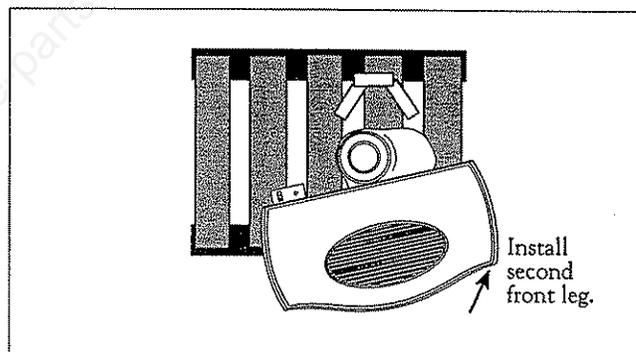

Figure 4.
Step 3. Slide the stove forward and swing the other front corner off of the pallet enough to secure the other front leg. Fig. 4.